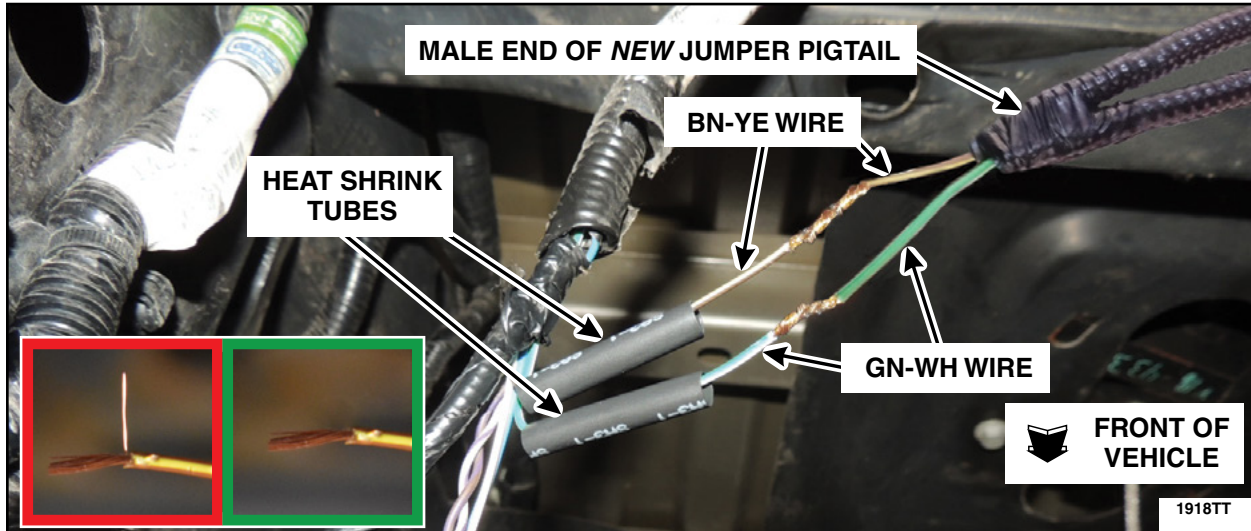

FIGURE 21
24. Install the male end of the *new* jumper pigtail to the corresponding wire colors of the male end of the vehicle harness by twisting the exposed wires together. See Figure 21.